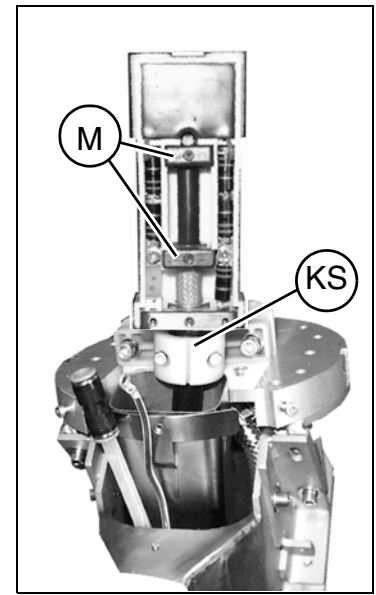

Fig. 17
- Remove the connection clamps (M/Fig. 17) in the old high-voltage connector.
- Open the cable clamps (KS/Fig. 17) of the high-voltage connector.